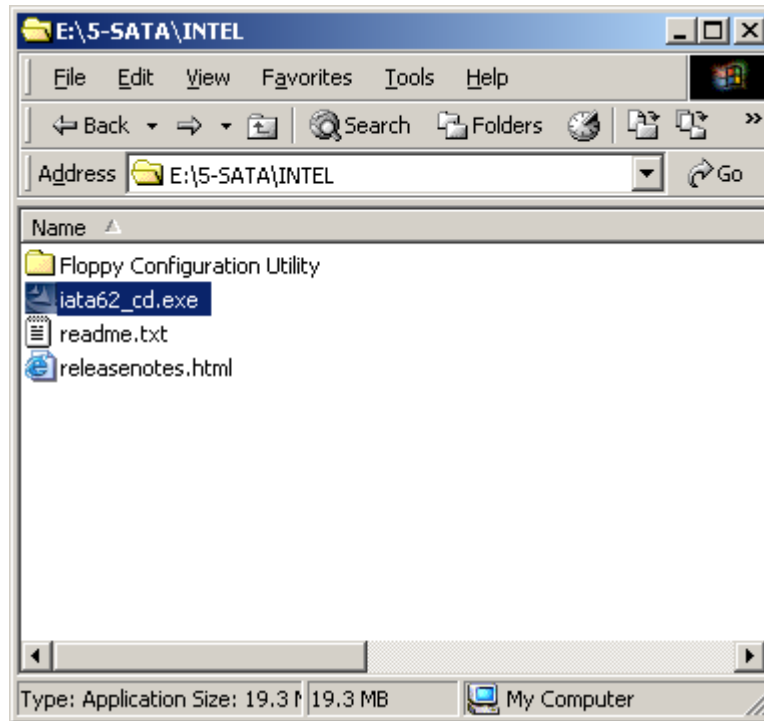

Figure 7-53: SATA RAID Setup Program Icon
Step 4: Double-click the **iata62_cd.exe** program icon in **Figure 7-53**.